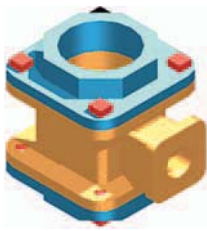

Fig. 17.9 Second example UCS – steps 12 and 13 + rendering
Second example – UCS (Fig. 17.9)
13. In the **UCS *WORLD*** view, move the parts into their correct position relative to each other. **Union** the two filleted rectangular extrusions and the main body. **Subtract** the cylinder from the whole (Fig. 17.9).